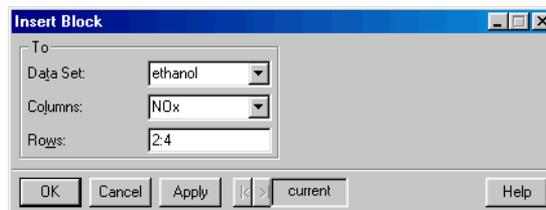

Figure 2.21: *The **Insert Block** dialog.*
- From the main menu, choose **Insert ► Block**. The **Insert Block** dialog opens, as shown in Figure 2.21.